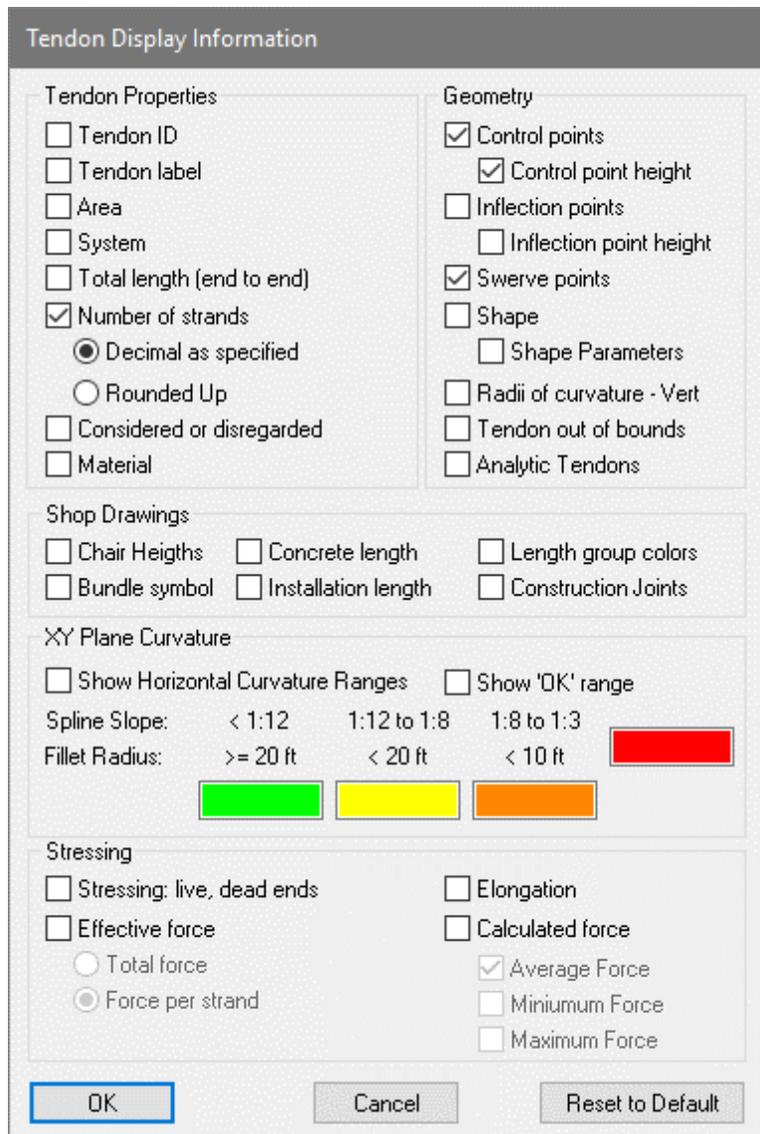
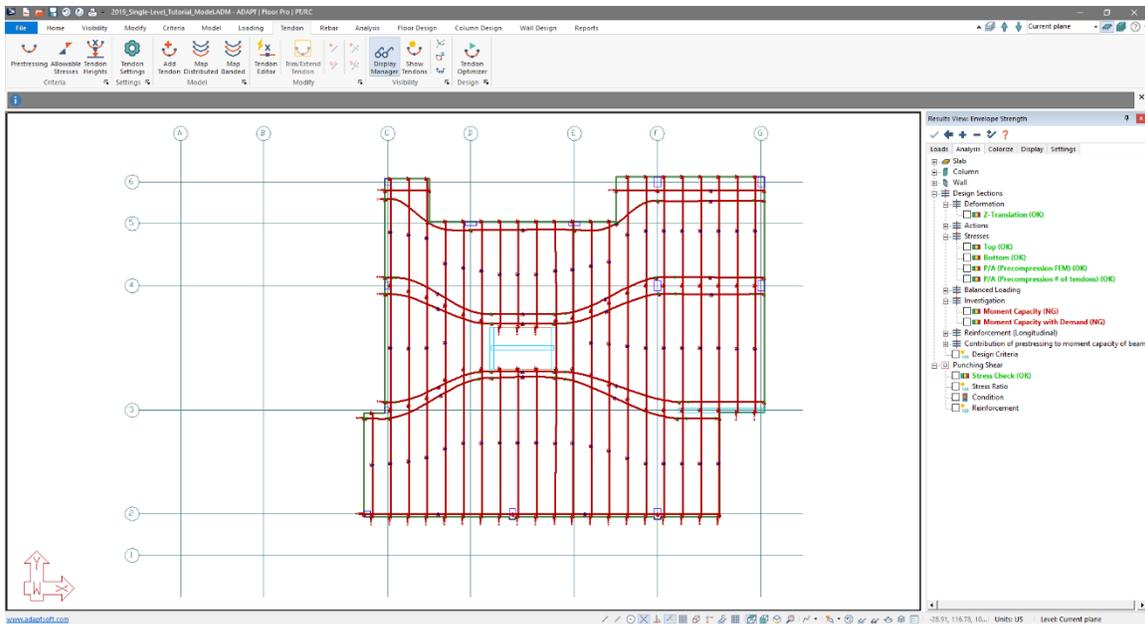

Figure 8-88
Figure 8-89
- Go to *Tendon* → *Visibility* and click on the *Display Manager*  icon to open the *Tendon Display Manager* window shown in **FIGURE 8-88**.
- Make the selections as shown in **FIGURE 8-88** and click the *OK* button. The users screen should appear similar to **FIGURE 8-89**.